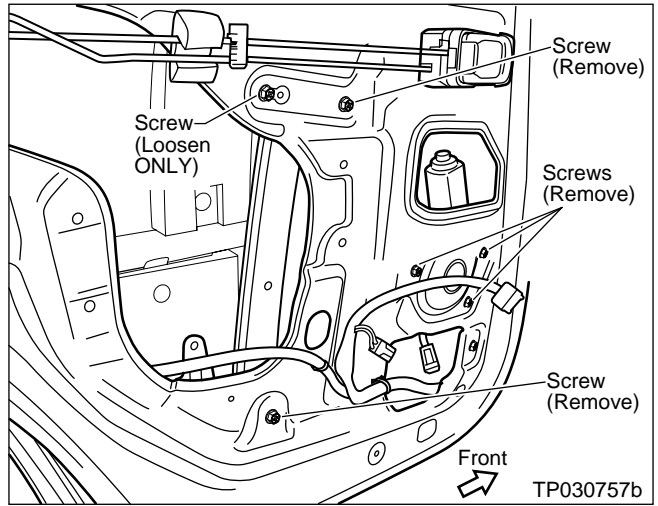

Figure 20
11. Loosen one screw and remove five screws that secure the Window Regulator Assembly (see Figure 20).